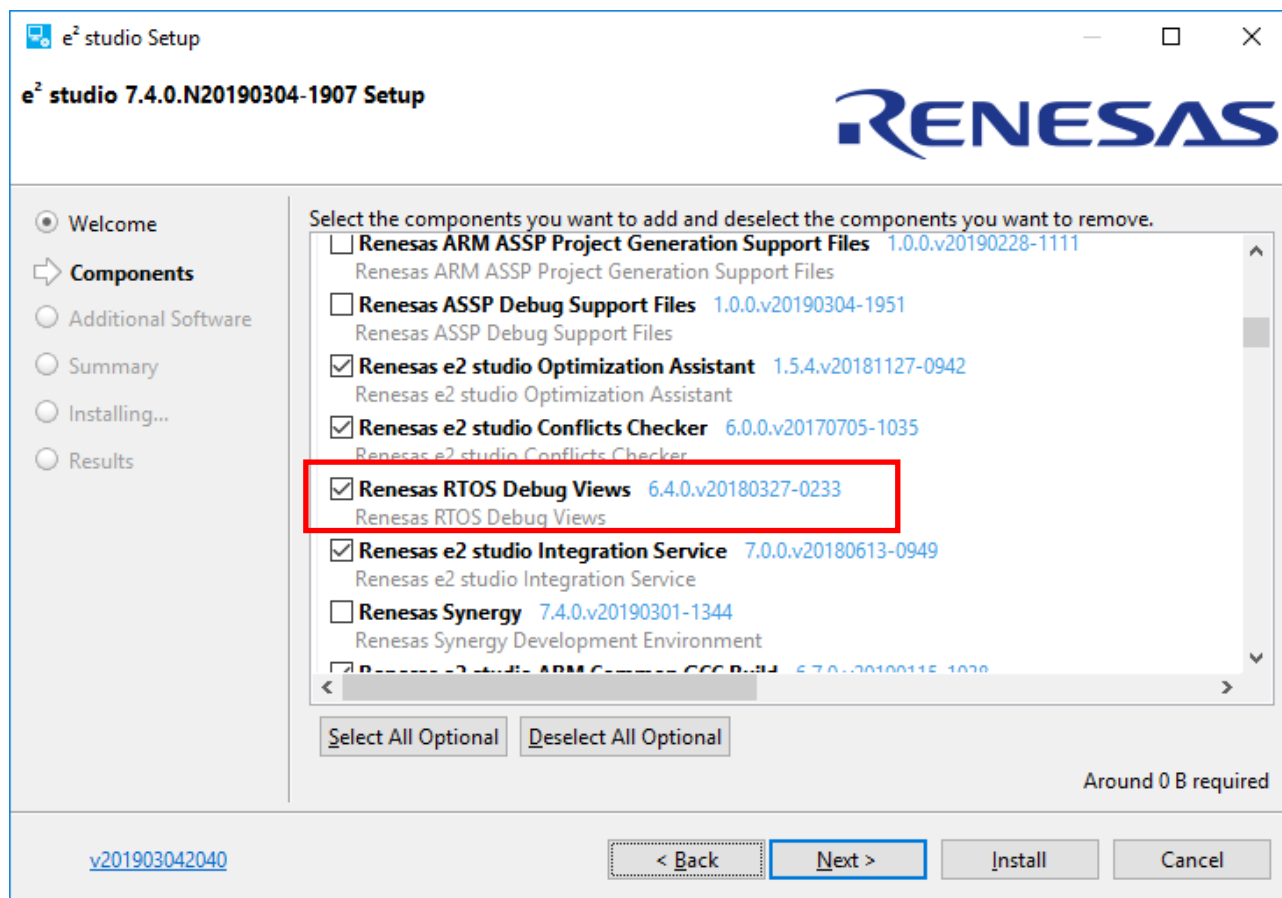

Figure 6-6 Adding FreeRTOS awareness function (to existing e² studio) 2
- Check “Renesas RTOS Debug Views” at “Components” stage of install wizard. This is shown in Figure 6-6.